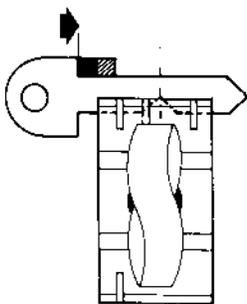

Fig. 2a
- 1) Ensure that switch (S) is in the OFF position or, with the Rotary Switch version, on <O> so that the cutter is not operated when the carriage is raised.
- 2) Place the settings blanks (K) in the Jaws, see Fig 2a. Make sure that the backs butt into the shoulders are completely in contact with the gauges (N). To bring the gauges into contact with the blanks, use your thumb to turn drum (U) clockwise. Turning anti-clockwise will bring them into the stop position. **Attention:** The carriage cannot be released unless the gauges are in the stop position.
- 3) Release the carriage and take the keys up to the cutter and tracer point. Turn the cutter full circle by hand, in the opposite direction from the cutting action, checking that the cutter skims the key bit. To release the carriage, lower it slightly, at the same depressing button (T), and raise towards the cutter.
- 4) If the cutter is too low or too high, regulate the cutting depths with the micrometer tracer point: loosen screw (M) and turn the knob (R). Turning clockwise lowers the tracer point and therefore gives a deeper cut.